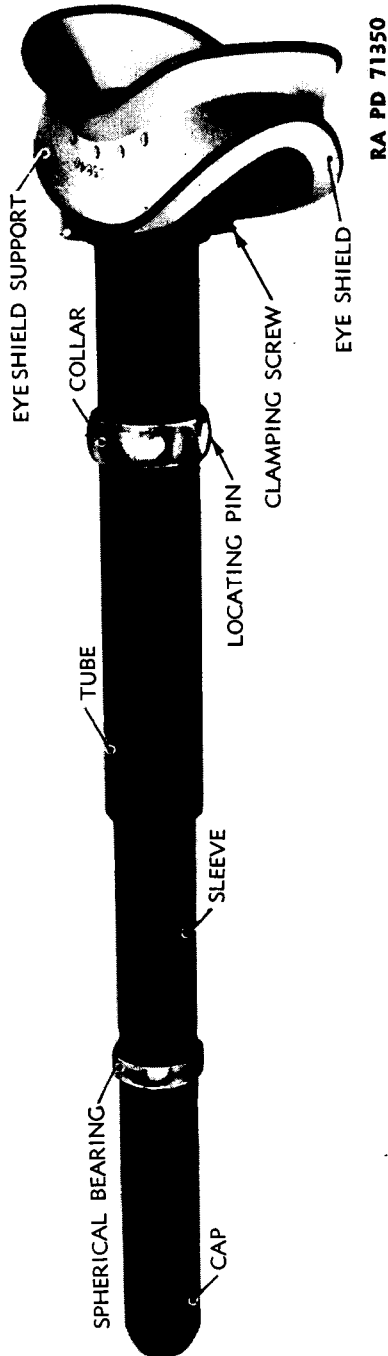

Figure 130 — Telescope M56
a. **Characteristics.** The sighting equipment for the 75-mm howitzer motor carriage M8 consists of the telescope mount M44 (fig. 128), the panoramic telescope M12A5 (fig. 129), the telescope M56 (fig. 130), the periscope M9 (fig. 133), and the gunner's quadrant M1.
(3) **TELESCOPE M56.** The telescope M56 (fig. 130) is a three-power, erect image instrument having a field of view of $12^{\circ} 19'$ and an exit pupil diameter of 0.217 inch. The reticle is provided with a range scale and a lateral deflection scale as shown in figure 132. The range scale is graduated from the data contained in firing table 75-I-3, part 2a-4, as is the reticle for the panoramic telescope M12A5. These scales on the reticle permit the use of the telescope M56 as a direct-sighting instrument when firing the 75-mm high explosive shell M48, fuze M48 or M54, charge 4. The telescope M56 is mounted on the right side of the howitzer motor carriage by means of the spherical bearing and the collar on the telescope, which fit into the telescope mounting brackets provided in the turret. The rear bracket is fastened to the left